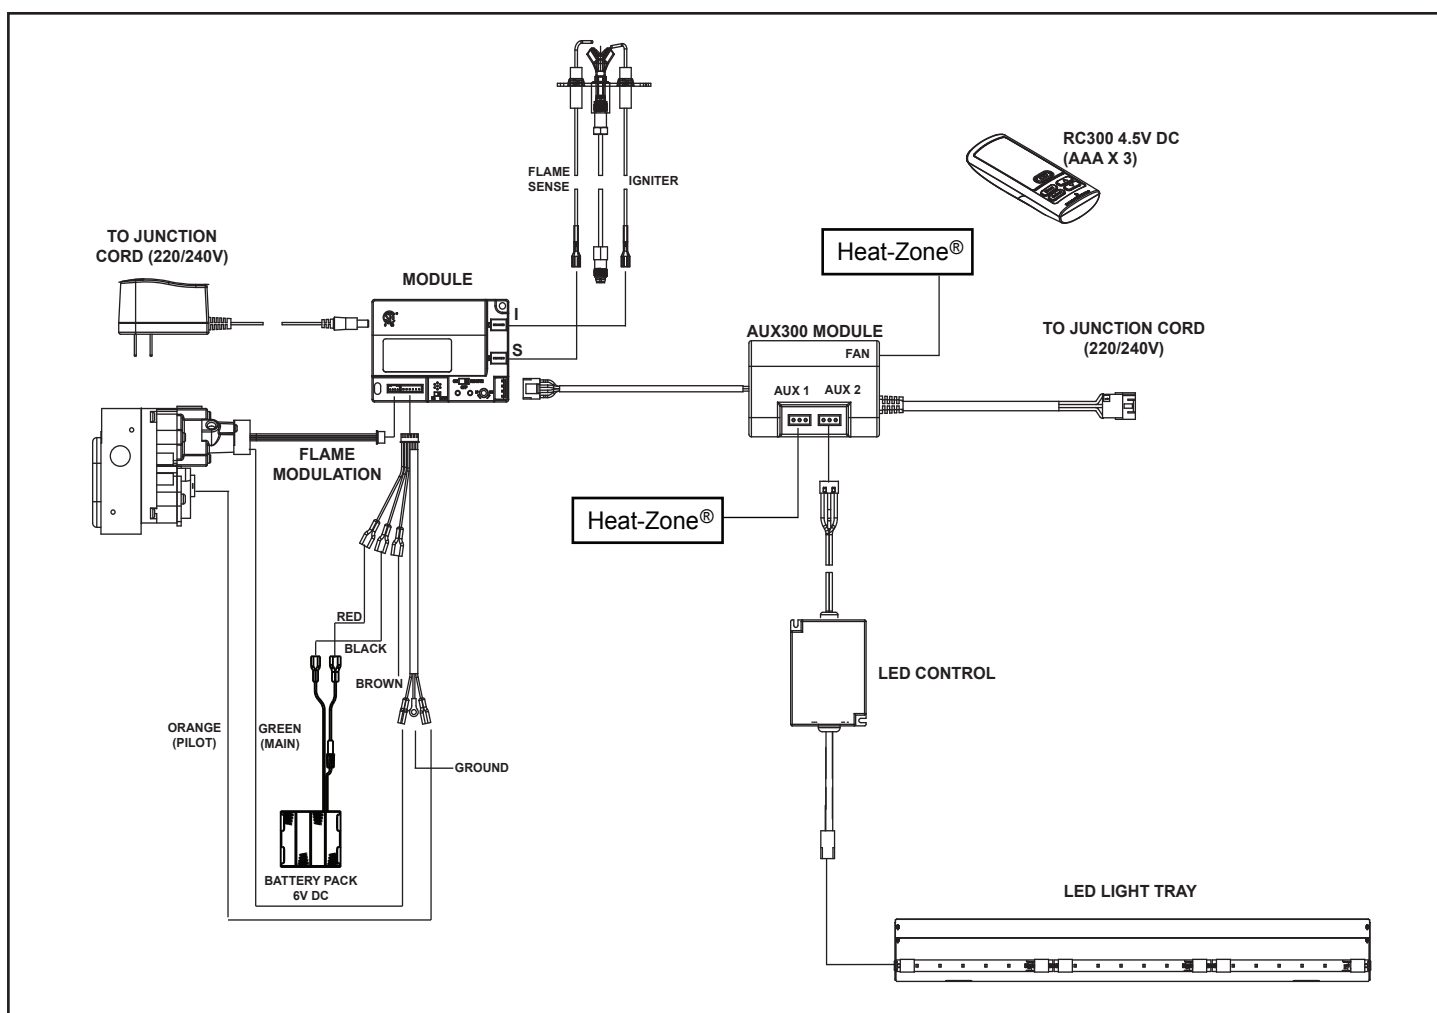

Figure 8.4 IntelliFire™ Plus Wiring Diagram with Remote
- Refer to Figure 8.4, IPI Wiring Diagram.